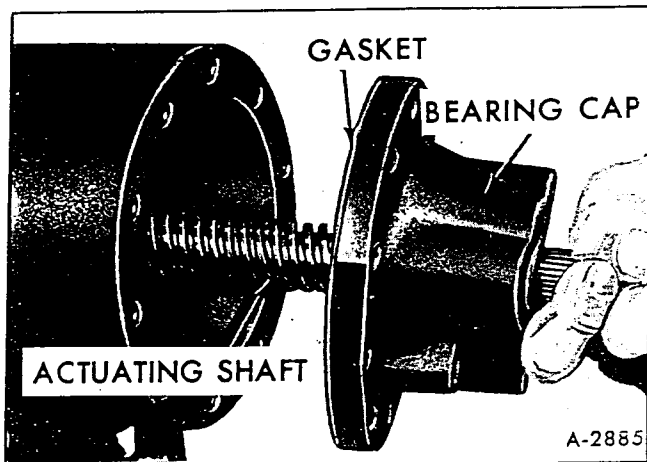

Figure 15 – Removing Actuating Shaft and Bearing Cap
10. Remove bolts from bearing cap and turn actuating shaft and bearing cap out of actuating valve (fig. 15).